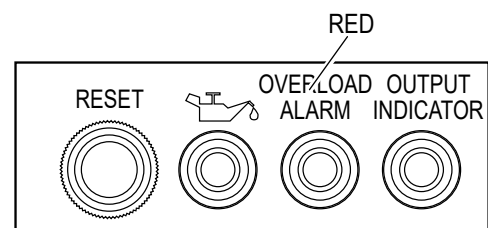

Figure 21. Overload Alarm (RED)
10. If the overload alarm (red) stays on (Figure 21) instead of the of the output indicator (green):